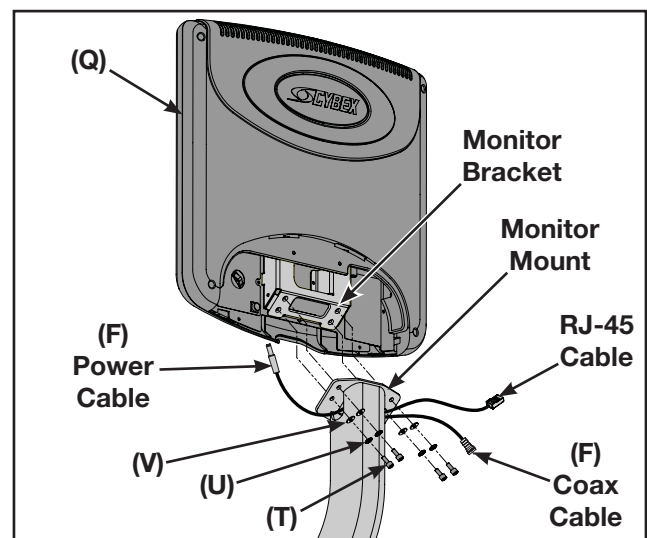

Figure 20
- C. Insert the power cable end of (F) through hole on left side of monitor mount. See Figure 20.
- D. Insert RJ-45 cable and the coax end of (F) through hole on right side of monitor mount. See Figure 20.
- E. Using a 3 mm Allen wrench, secure the monitor bracket to the monitor mount using the four mounting screws (T), four lock washers (U) and four flat washers (V). See Figure 20.